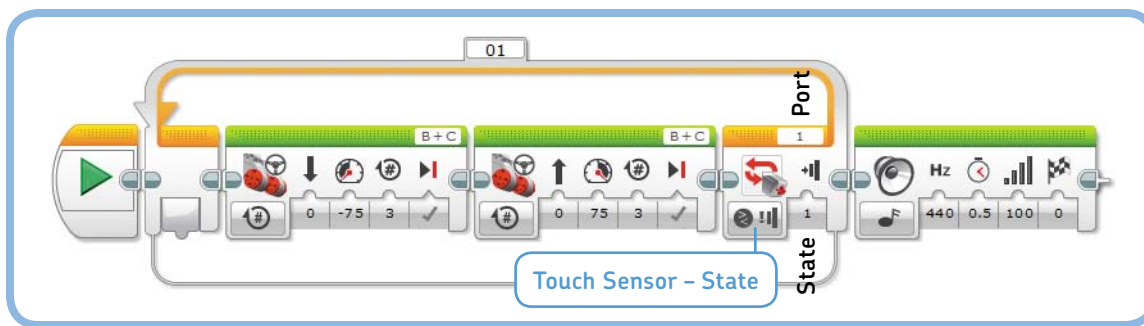

Figure 6-10: The LoopUntilTouch program. To configure the Loop block, click the Mode Selector and choose **Touch Sensor - State**.
As you learned in Chapter 5, you can configure a Loop block to loop a certain number of times, loop for a specified number of seconds, or loop endlessly. You can also program a Loop block to stop repeating based on sensor input. For example, you can make your robot drive back and forth until the Touch Sensor is pressed. To configure the Loop block like this, select the **Touch Sensor - State** mode, as shown in Figure 6-10. As before, choose **1** in the Port setting.
- * A *Loop block in Compare mode* checks the condition against a new sensor value each time it's done running the blocks inside the loop. If the condition is true, the program moves on to the block after the loop; if it's false, the loop runs again (see Figure 6-10). Loop blocks are always in Compare mode.